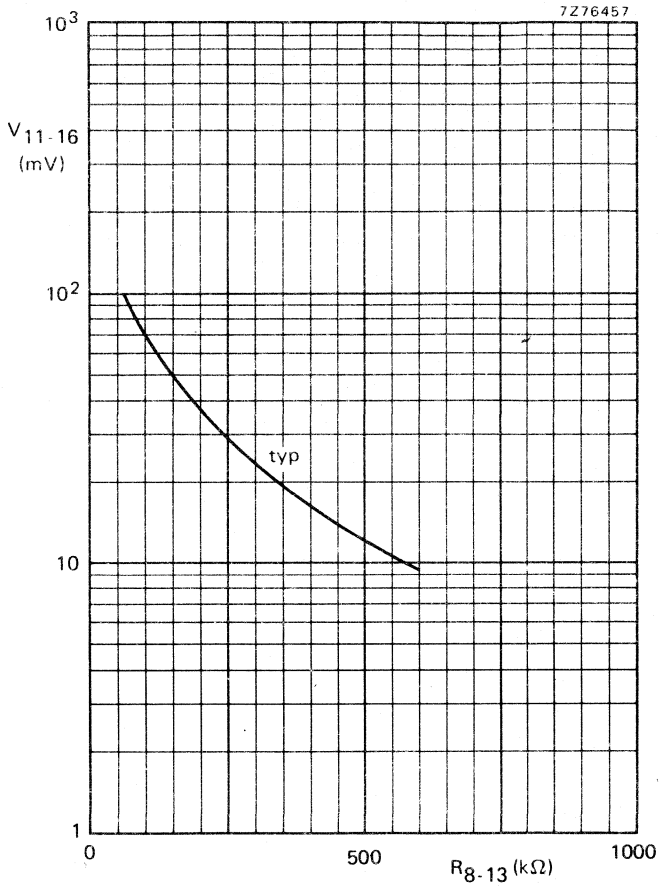

Fig. 8 Pilot input voltage switching level as a function of resistance between pins 8 and 13.
- Adjustable with R₁₃₋₈; see also Fig. 8; for field strength dependent input (pin 14) see page 6.